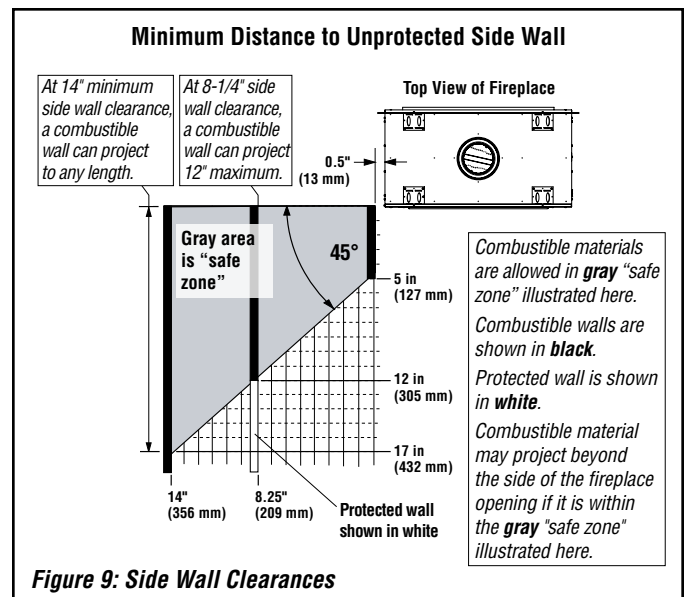

Figure 9: Side Wall Clearances
- Combustible material may project beyond the sides of the fireplace opening, as long as it is within the shaded area shown in **Figure 9 on Page 11**.